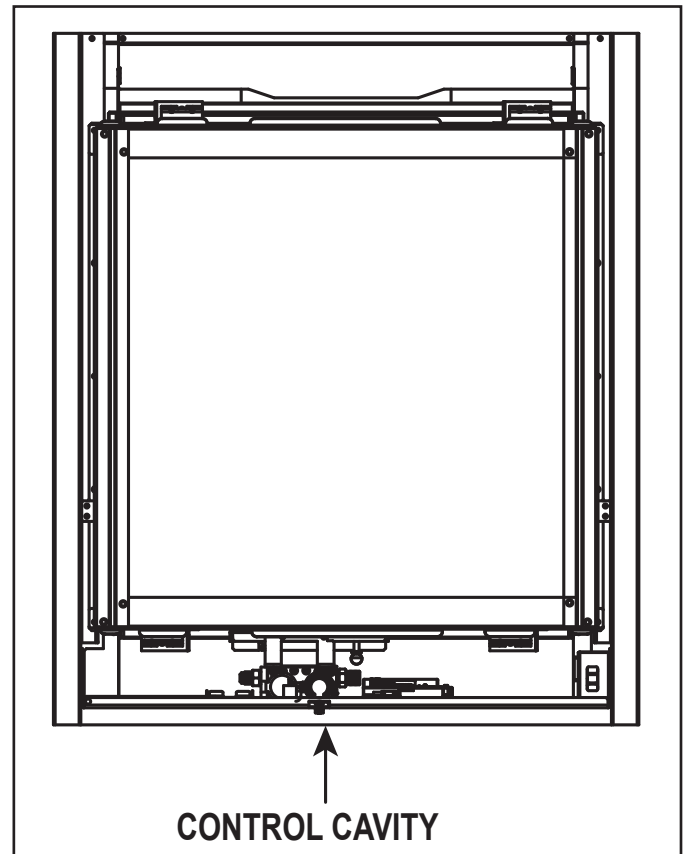

Figure 3.3 Control Cavity Location
The IntelliFire™ Plus intermittent pilot ignition system comes with a battery backup system that enables the system to operate in a power outage. The system offers seamless transition from household AC power to battery backup. A factory-installed battery pack is located in the control cavity of the appliance. See Figure 3.3. Battery longevity and performance will be affected by long term exposure to the service temperatures of this appliance.
1. Access the control cavity of the appliance. See Figure 3.3 for location. The decorative front or door will need to be removed. See Section 4.B for decorative front removal information.
The battery backup is located in the control cavity of the appliance. See Figure 3.3. A complete wiring diagram is included in the Electrical section of the appliance installation manual.